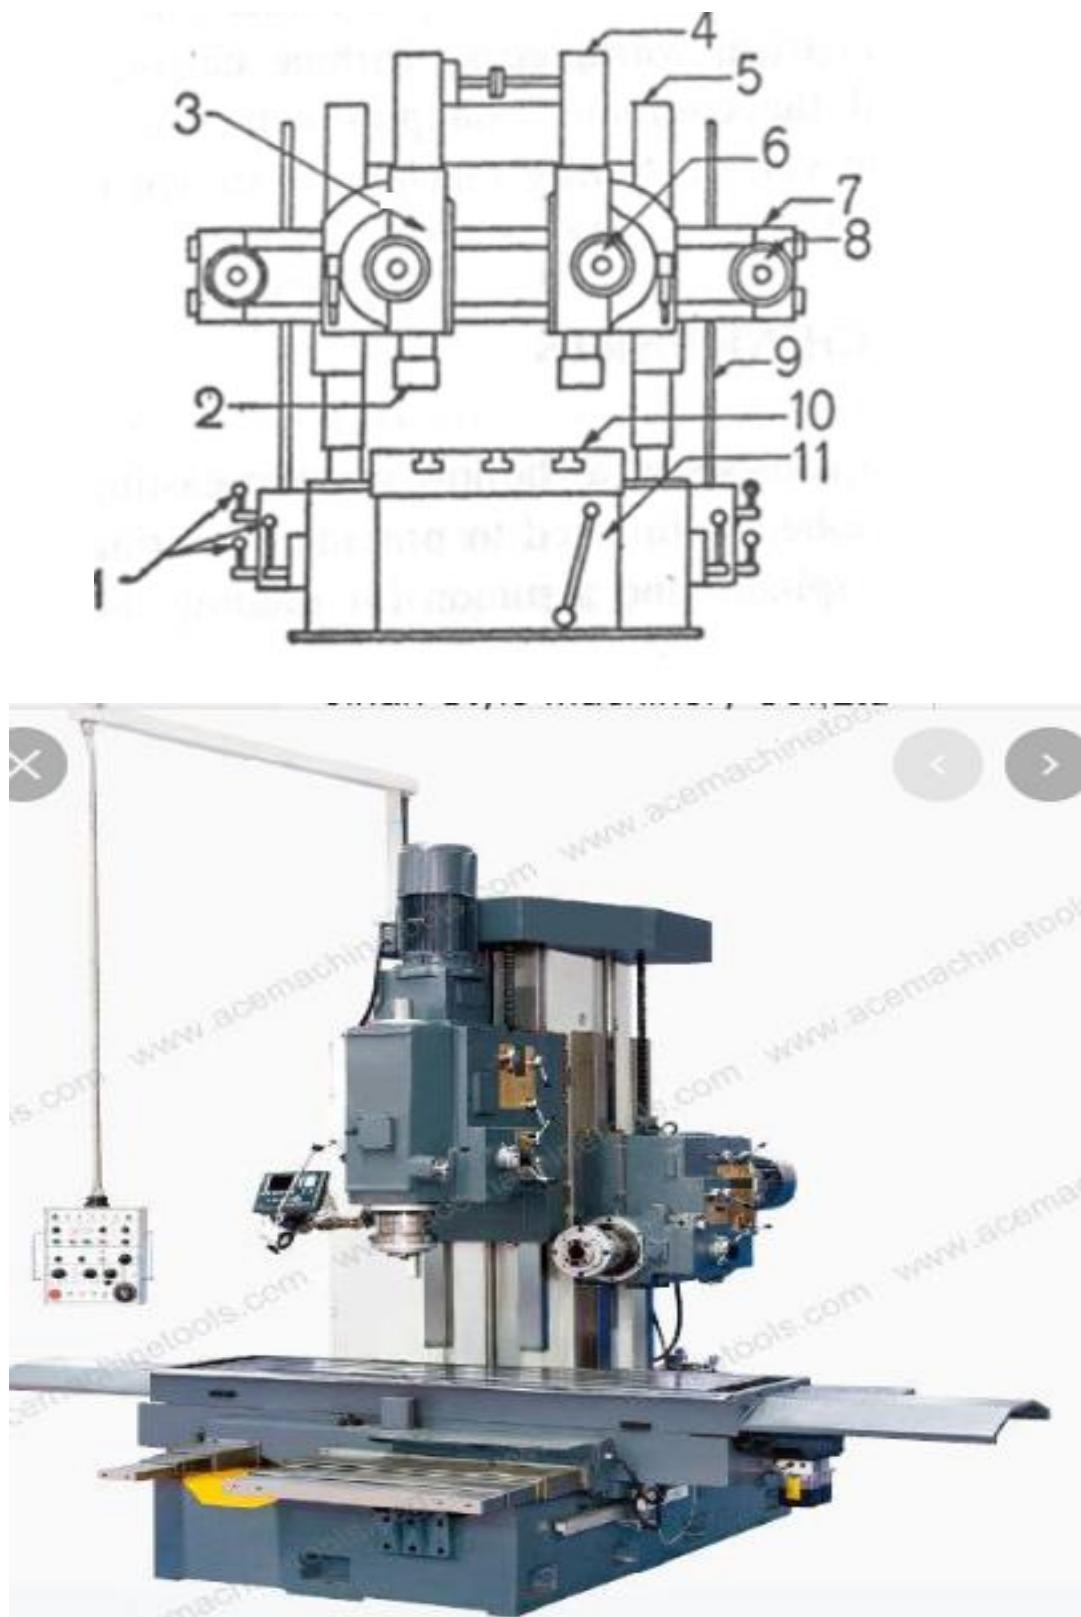

Figure: 1.6. Schematic illustration of a vertical boring Machine
**The schemating diagram of vertical boring machine** is shown in figure. 1.6 .VBM will be used in case of length of the workpiece is less then the diameter. Block diagram of vertical boring machine Here the cutting tool is stationary and mounted in the tool head.